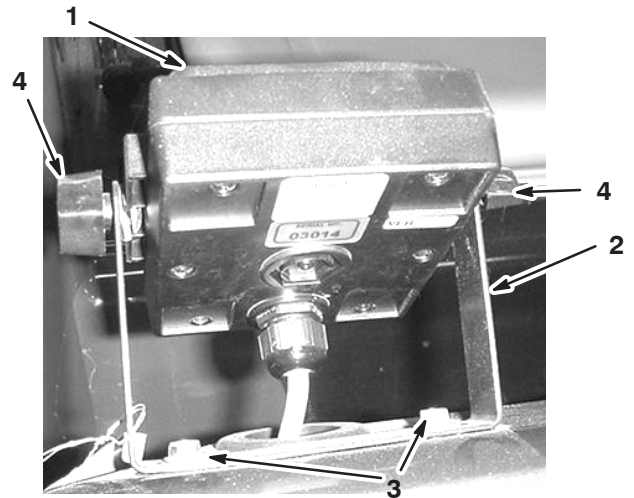

Figure 3
1. Install the monitor bracket on the dash (Fig. 3) using 2 flange-head bolts (1/4 x 3/4 inch) and 2 flange nuts (1/4 inch).
2. Loosely install the 2 carriage bolts, rubber washers, and knobs on the bracket as shown in Figure 3 and 4.
6. Install the Spray Pro monitor over the carriage bolt heads (Fig. 3) and tighten the knobs to secure it.